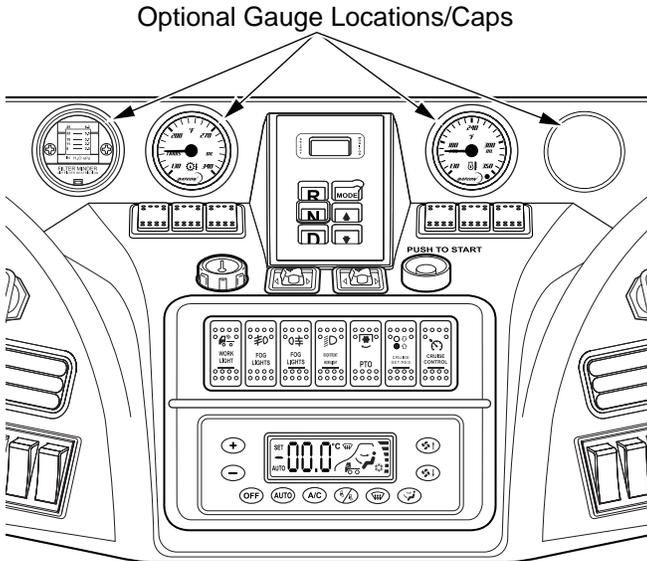

Figure 8-5
- Remove the gauge panel caps and set aside for reinstallation (see Figure 8-5).